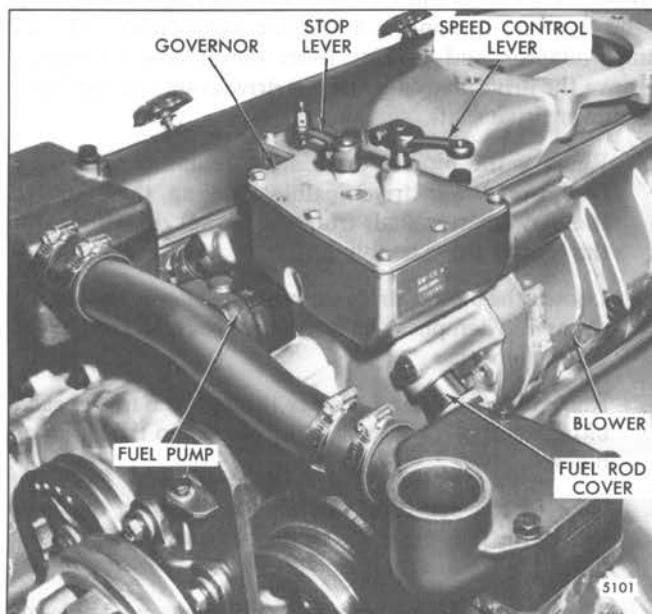

Fig. 5 - Limiting Speed Mechanical Governor Mounting
3. Disconnect the control linkage from the speed control and stop levers (Fig. 5).